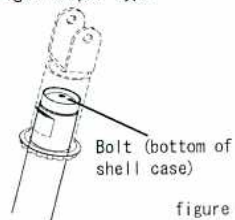
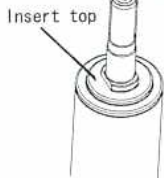

figure 1
figure 2
11. DO NOT remove small bolt on bottom of shell case (upright damper type, see figure 1), and/or small bolt located at insert top (inverted type, see figure 2) to prevent gas leakage.